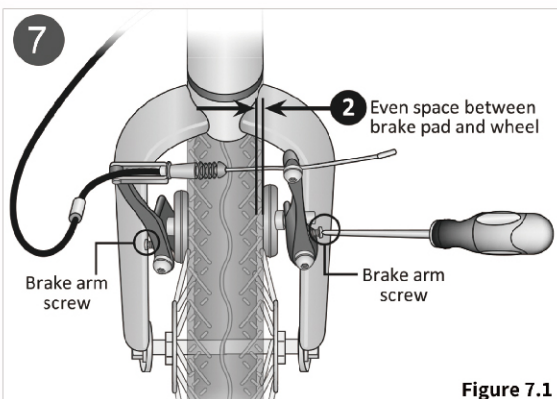

Figure 7.1
- ① Using a phillips head screwdriver, adjust the brake arm screws on either side of the brake arm. Note: Turning the screw clockwise moves the pad away from the rim. Turning the screw counterclockwise moves the pad towards the rim. Figure 7.1
- ② Start with the side where the pad is closest to the rim or is not moving properly. Turn the screw to move the pad towards or away from the rim.
- ③ Adjustments to these screws should be made in small increments, one-quarter to one-half turn then checked by activating the brake lever three to four times after each adjustment. If you continue to adjust the screw until you have noticeable movement you will run out of adjustment.